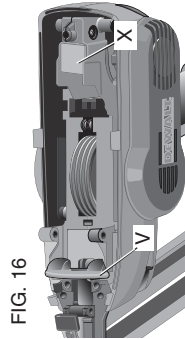

FIG. 16
6. Inspect lower bumper (V), upper bumper (X), and other surfaces for cracks or damage and replace if necessary (Fig. 16). Replace damaged return cord assembly.